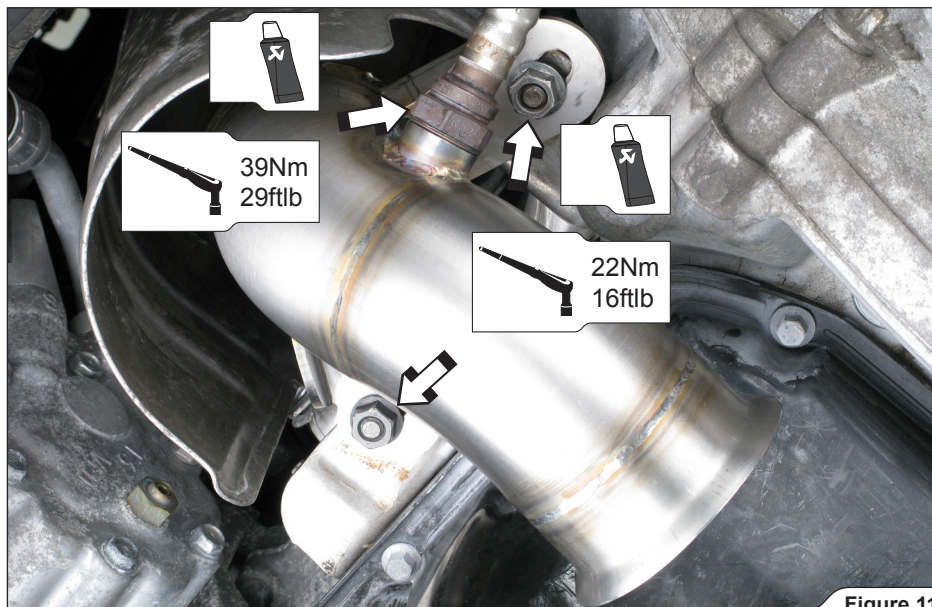

Figure 11
1. **For Optional Down Pipe only:** assemble the Akrapovič Down Pipe in the reverse order from the order in which the stock was removed. Tighten the lower lambda sensor (**Figure 11, 12**).